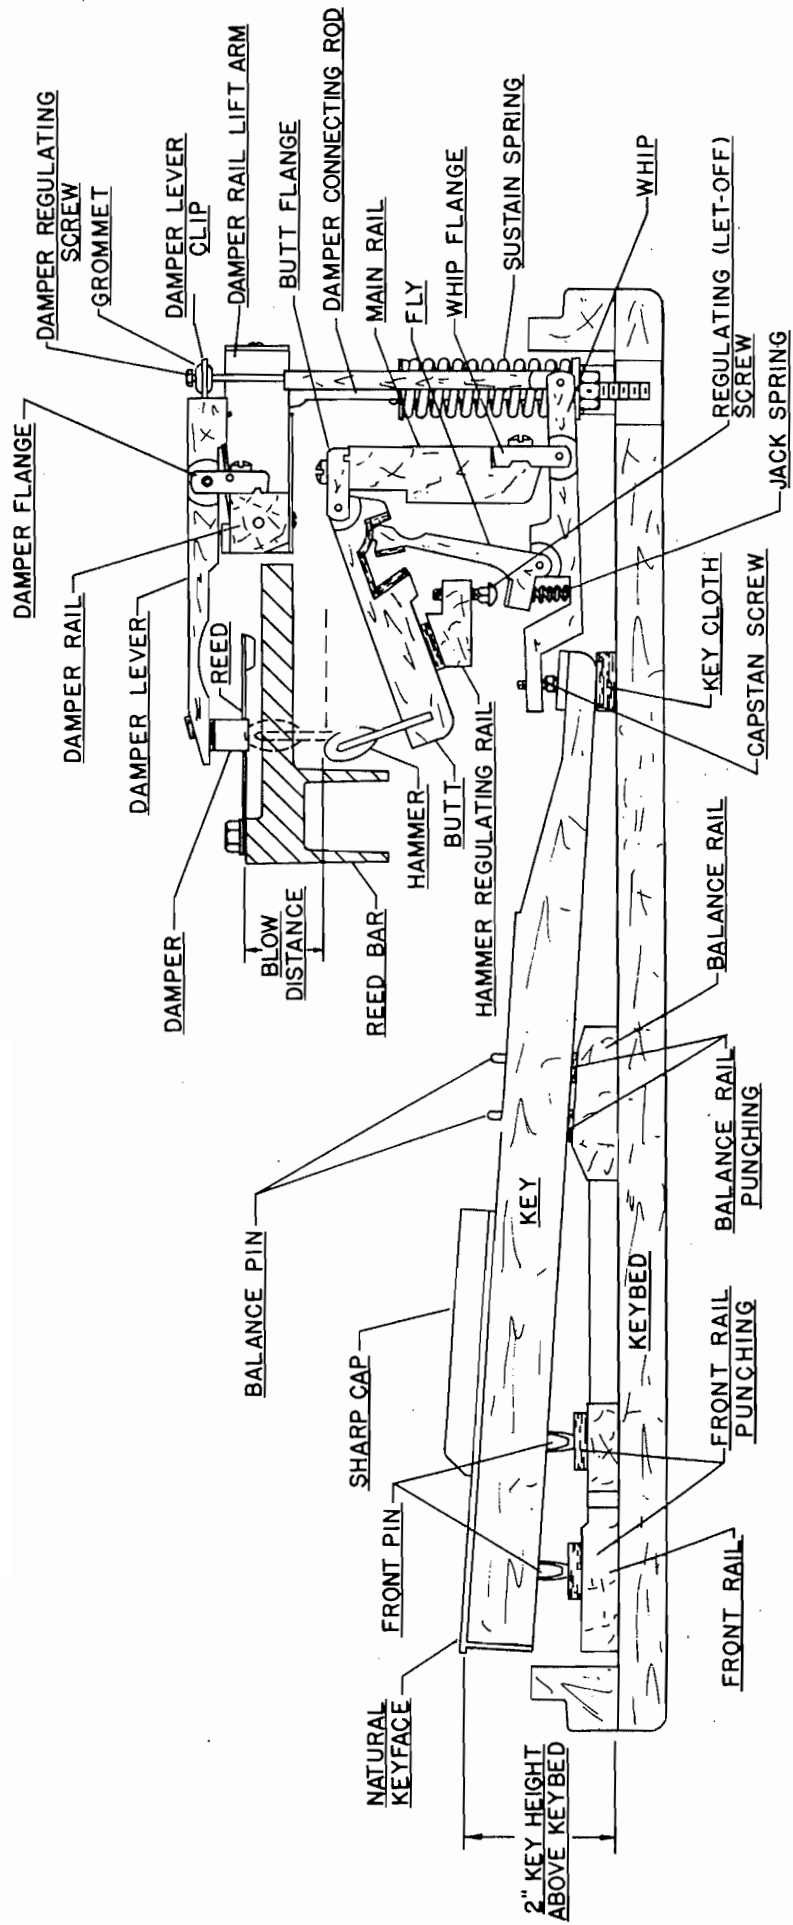

FIG. 2
1. KEYBOARD INSPECTION (SEE FIG. 2, Page 8):
The correct blow distance is $1 \frac{5}{64}$ " measured from the tip of the hammer to the under surface of the reed. (SEE PAGE 10, FIG. 2.)